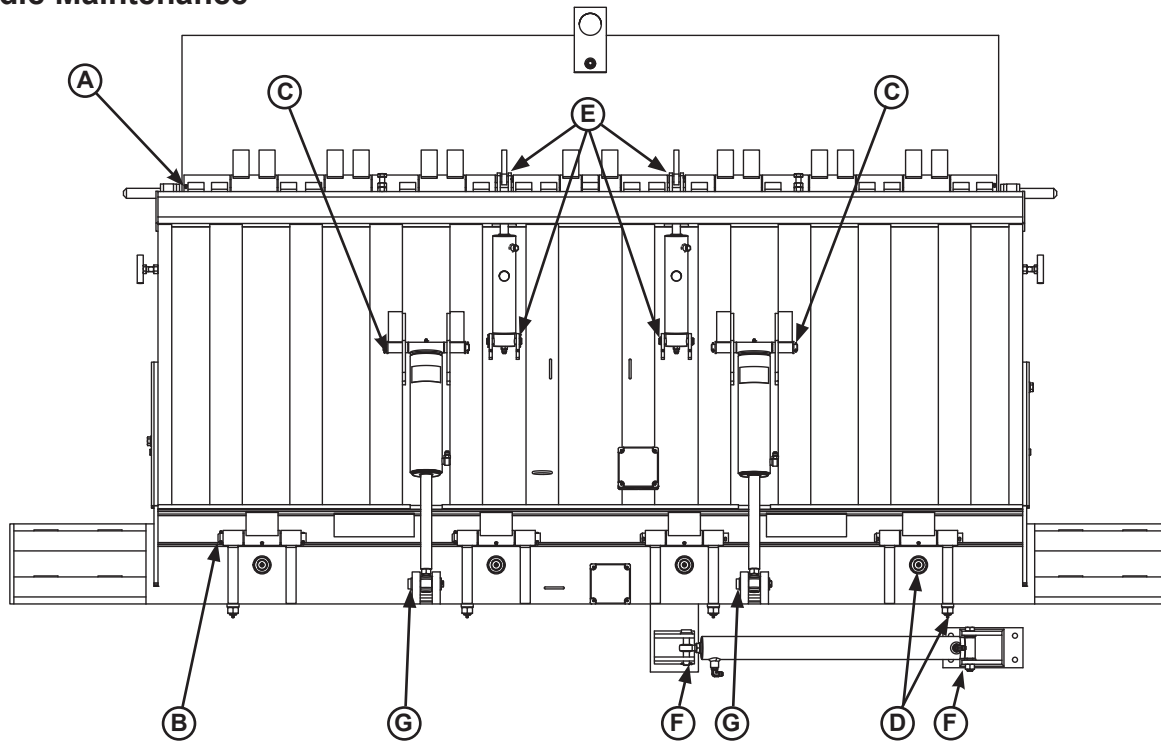

Figure 29
- Lubricate the following areas with light weight machine oil (see Figure 29):
- (A) — Lip hinge area unless equipped with grease fittings (apply oil to the top of the entire length of lip hinge when platform is in the stored position and lip is folded)
- (B) — Platform hinge area (apply oil to top of all platform hinges when platform is in the stored position.)
- (E) — Lip Cylinder pins.
- (F) — Side Shift Cylinder pins.
- Lubricate the following areas with white lithium grease (see Figure 29):
- (C)(G) — Hoist cylinder grease fittings and pins.
- (D) — Cam roller bearing grease fittings.